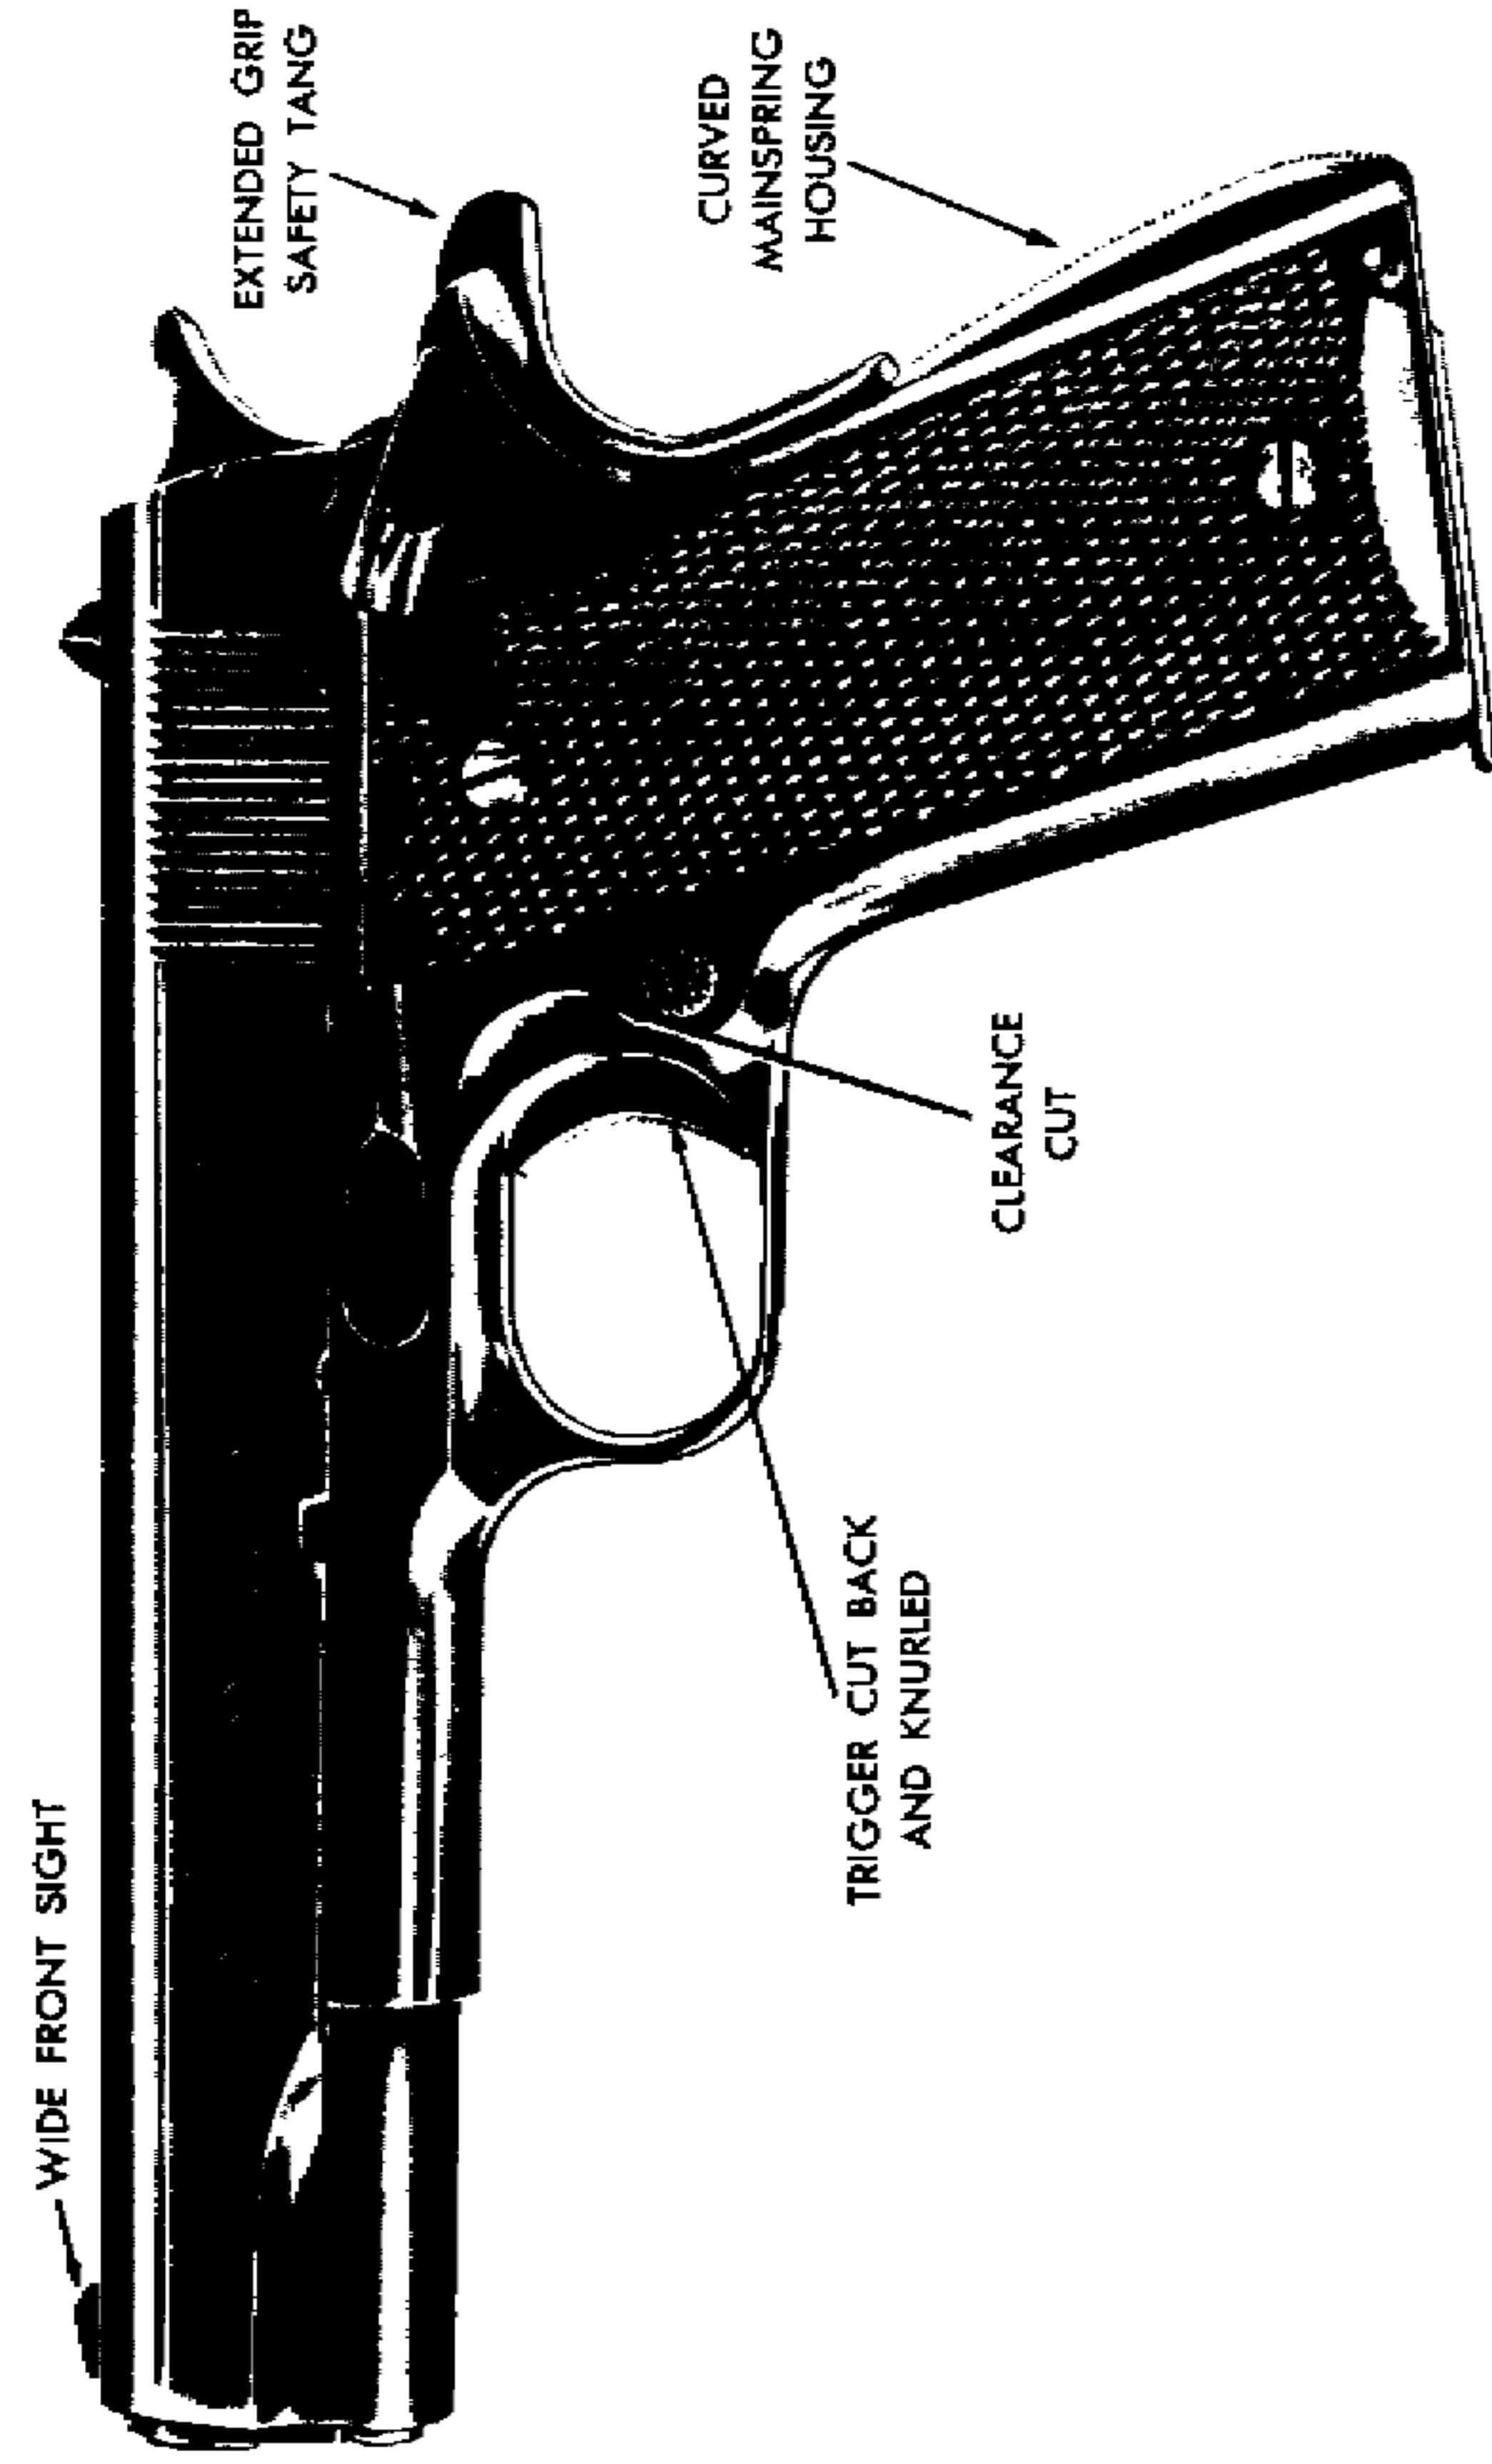

Figure 2 — Left Side of Pistol M1911A1 Showing Exterior Difference Between It and M1911
b. The M1911A1 Pistol is a modification of the M1911 Pistol, (figs. 2 and 4) but its operation is exactly the same and the differences do not affect the maintenance. In the model M1911A1 the differences are:
(1) The tang of the grip safety is extended to provide better protection for the hand.
(2) A clearance cut is made on the receiver for the trigger finger.
(3) The face of the trigger is cut back and knurled.
(4) The mainspring housing is raised in the form of a curve to fit the palm of the hand and is knurled.
(5) The top of the front sight is widened, rear notch widened .